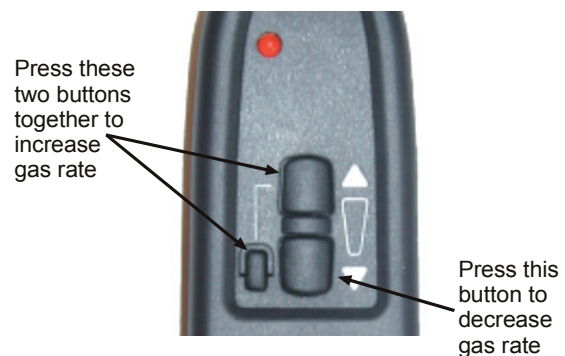

Figure 6 - Handset Operation
6. Using the HANDSET (as shown in **Figure 6**) press and hold **both the top and the small button together** until the main burner goes to full rate and clicking can be heard from the valve. During this process the main burner will ignite from the pilot.